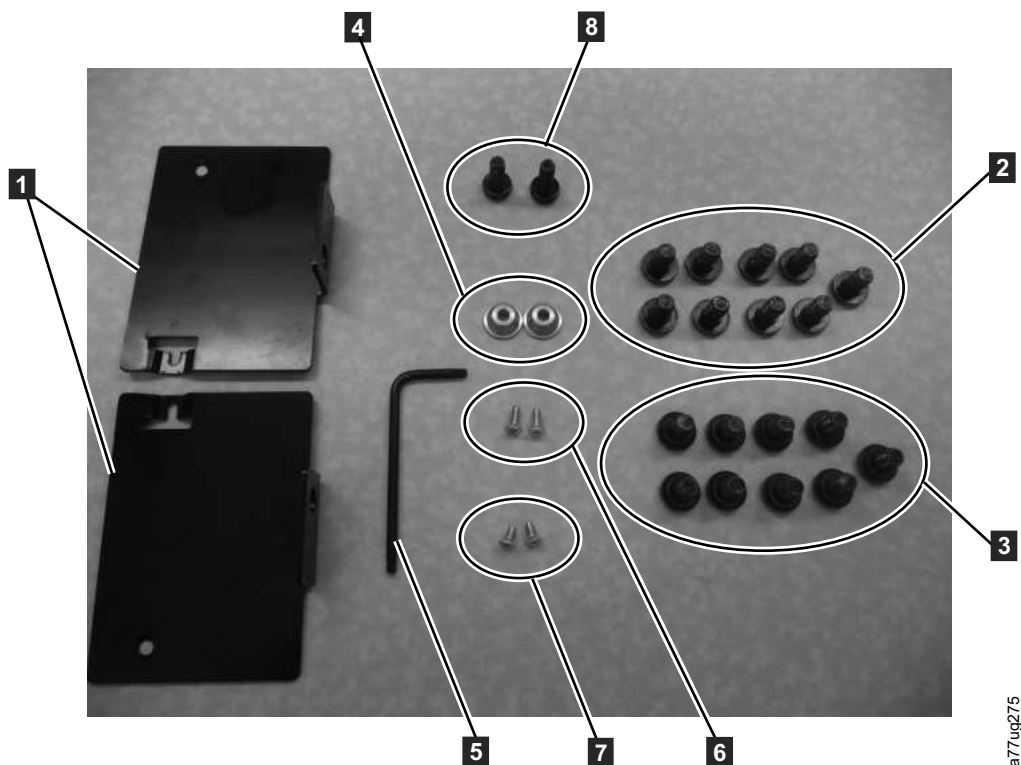

Figure 22. Rack Kit A mounting hardware
1. Verify which rack kit was included in your shipment. Although there are two different rack kits, the steps to install them are the same. After verifying the Rack Kit you received, see Figure 22 for the installation steps.
- 2 mounting brackets (**1** in Figure 22)
- 1 Torx wrench (**5** in Figure 22 on page 42)